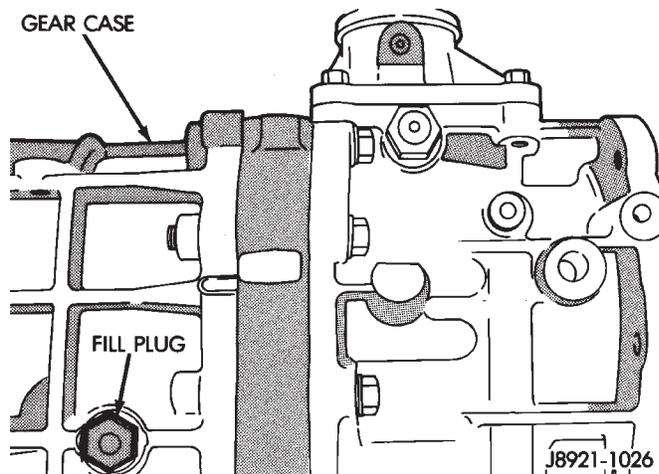

Fig. 12 Fill Plug Location
- 17. Fill the transmission with the proper fluid (Fig. 12).